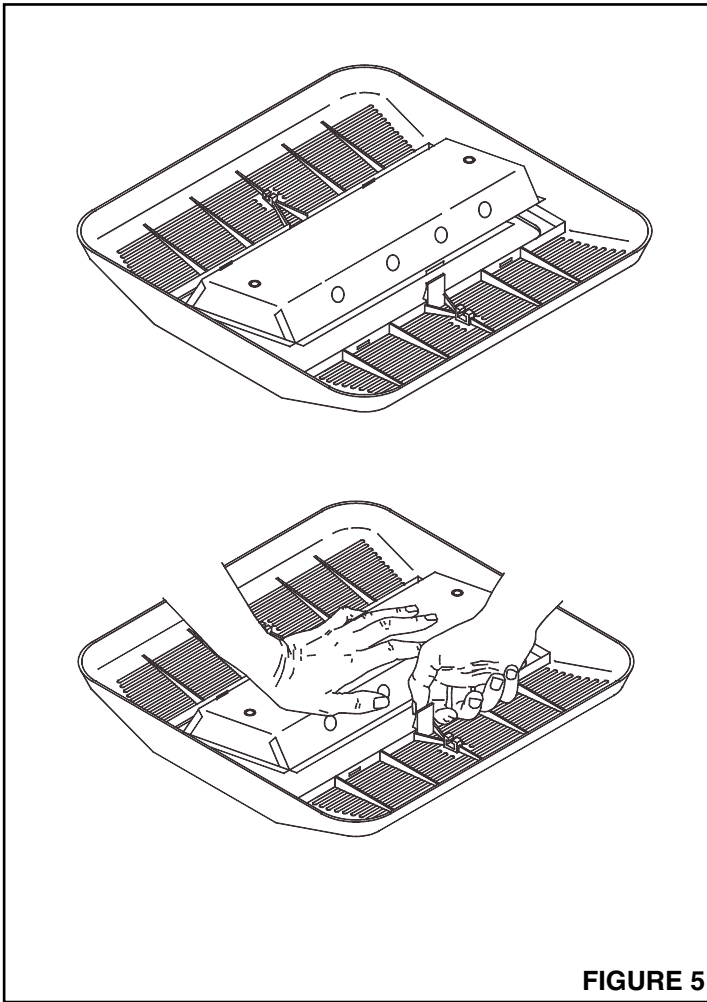

FIGURE 5
1. Refer to Figure 5. Open reflector on back of grille by depressing latch and lifting up on reflector. Install one 26 watt compact fluorescent lamp NEMA type CFQ26W/G24D. Note: The reflector holds the glass diffuser in place. Be careful that diffuser does not drop out of grille. Close reflector and snap into position.
2. Refer to Figure 5. Place the grille on a table or counter top. Open reflector by depressing latch and lifting up on reflector. Note: Reflector holds glass diffuser in place. Be careful that diffuser does not drop out of grille. Relamp lamp with one 26 watt NEMA type CFQ26W/H24D fluorescent lamp. Close reflector and snap into position.